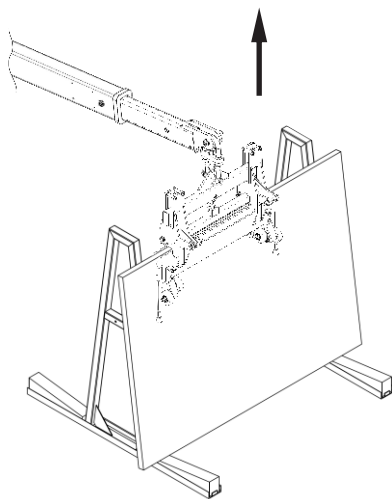

Figure 2b
- Lift the material slowly to ensure the load is balanced. While lifting the material, the automatic locking latch will release the clamping jaws to grip the material tightly. Now the material is ready to be moved away from the stand (figure 2b).